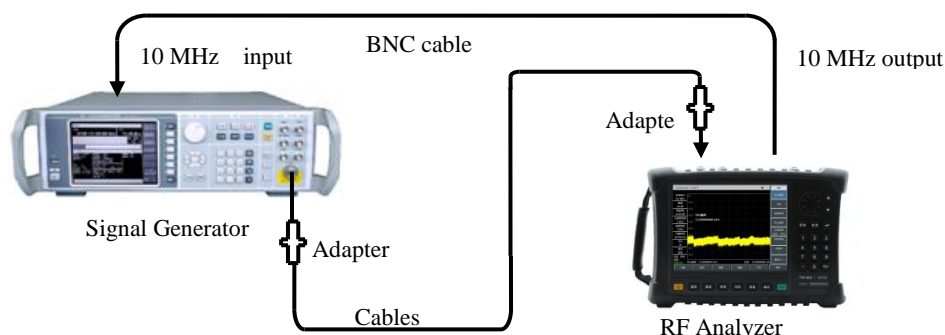

Figure 16-11 Schematic Diagram of Sideband Noise Test
- a) Connect the test equipment as shown in Figure 16-11, and the instrument is used to provide reference frequencies for the composite signal generator.